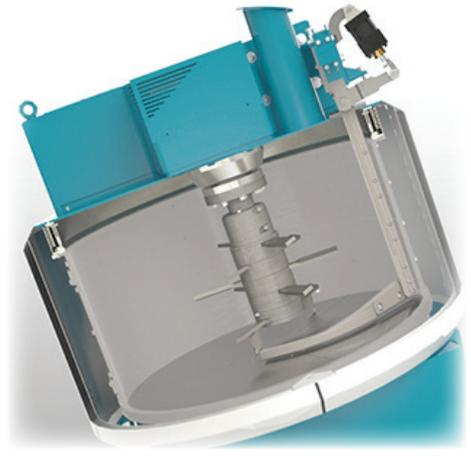

Figure 1. Mixing position. Wall scraper at rest parallel to pan wall and floor. Gap distance is 2-3 mm between bottom blade and pan.
1. In the mixing position the SmartClean® wall scraper is at rest and parallel to the mixing pan. The gap distance is 2-3 mm between bottom blade and pan. *Figure 1*